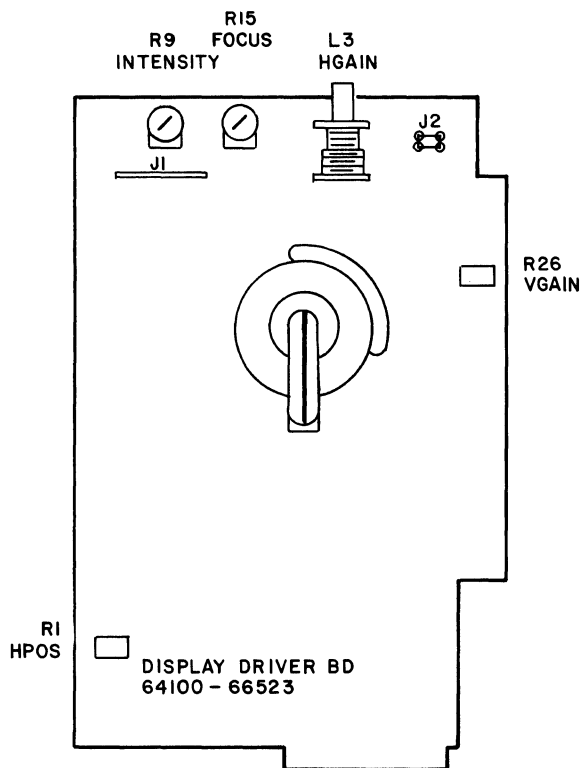

Figure 2-1. Location of Connectors J1 and J2
5. Disconnect the cables at J1 and J2 of the display driver, see figure 2-1.